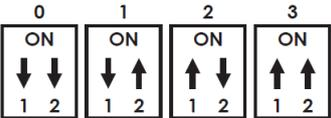

Figure 13: IR Remote Address Number
- 2. Assign an address number (from 0 to 3) that matches the setting on the remote used with the unit (Figure 13). The default factory setting is 0.